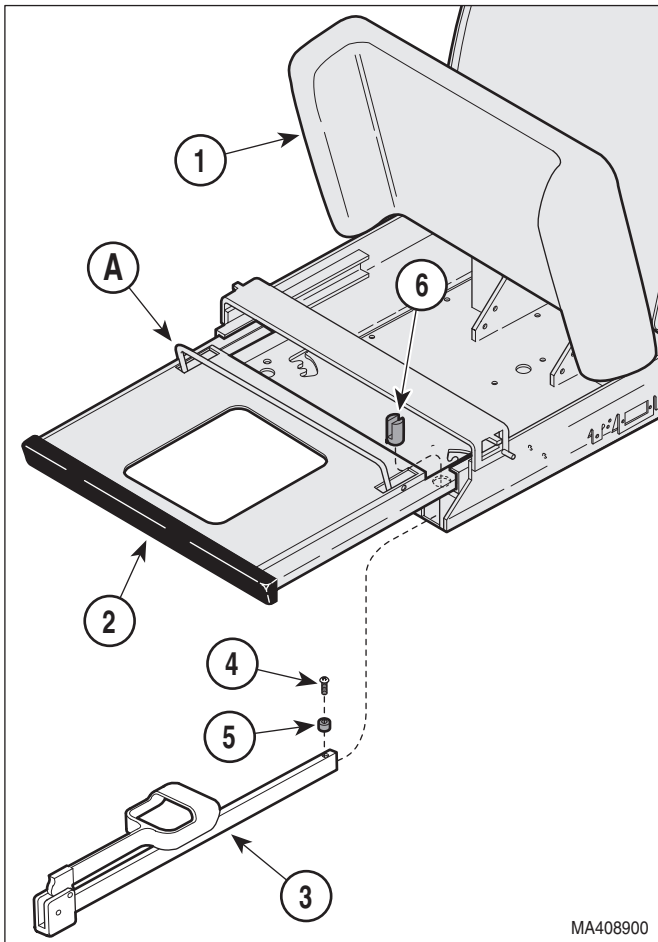

Figure 4-5. Stirrup Components Removal / Installation
- (1) Raise seat section (1, Figure 4-5) up.
- (2) Pull foot rest section (2) out all the way.